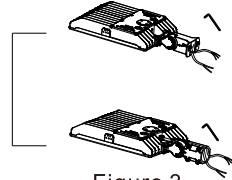

Figure 3
Step 3: Let input wire go through the bracket and lock the bracket. (Figure 3)